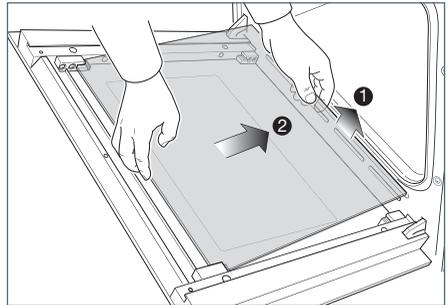

Fig.37c
- Gently lift the bottom edge of the pane (arrow 1 in Fig. 37c) and remove it by pulling it out from the top clamps (arrow 2 in Fig. 37c).